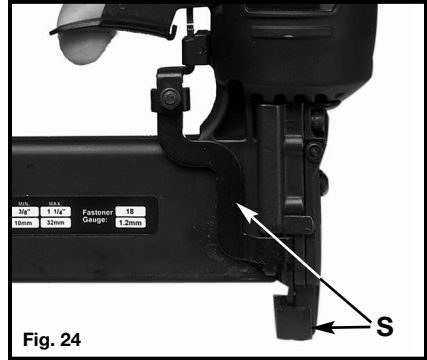

Fig. 24
This tool is shipped from the factory with a “**single sequential actuation**” trigger. This actuation design requires the release of both the trigger and safety mechanism after each fastener is driven. Sequential actuation is the only triggering option available for this tool. **To fire, grip the tool firmly to maintain control, position nose of tool onto work surface, push the tool firmly against work surface to depress safety (S) Fig. 24, and squeeze trigger to fire a fastener.** Allow tool to recoil away from work surface as fastener is driven. This “**single sequential actuation**” method provides the most accurate fastener placement.